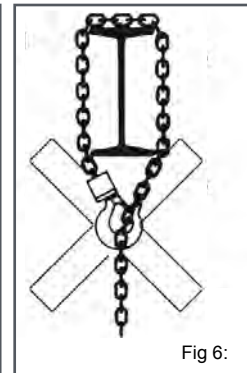

Fig 6:
- **Do not** use the load chain for lashing purposes (slings) (Fig. 6).